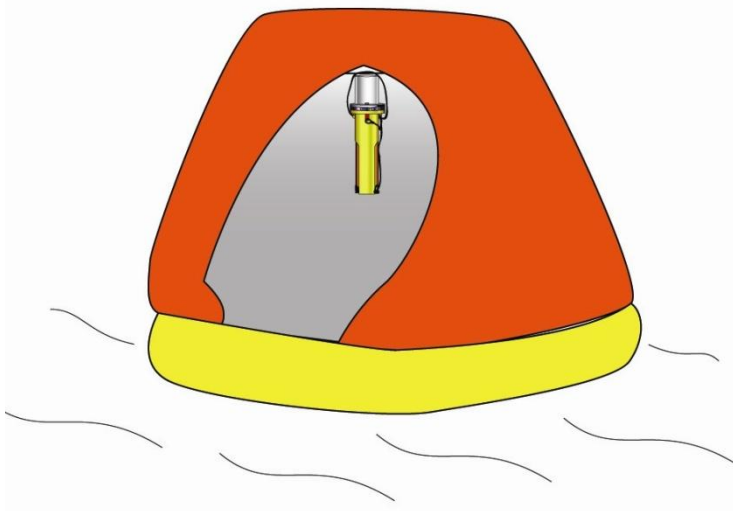

Figure 7
1. If no pole is available, or if you prefer, you can suspend the SART from the canopy support in the life raft using the additional lanyard loop provided (see Figure 7).